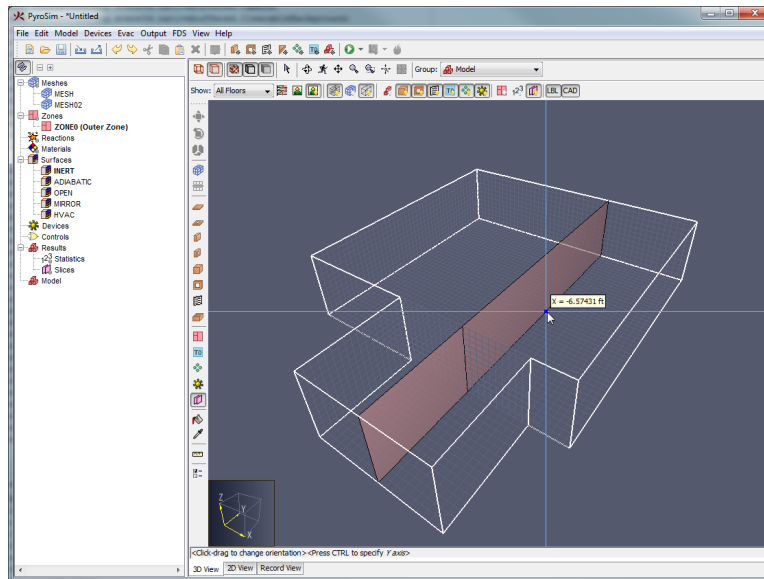

Figure 85. Drawing a slice with the planar slice tool
3. Move the cursor to the desired slice location. A preview slice will be displayed as shown in Figure 85.